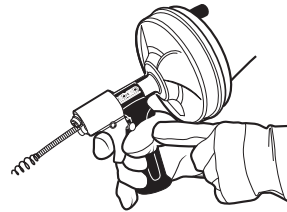

Figure 5
1. Insert cable into drain. Position unit as close to drain as possible. Squeeze trigger and press lock button to engage the AUTOFEED® lock (Figure 5).